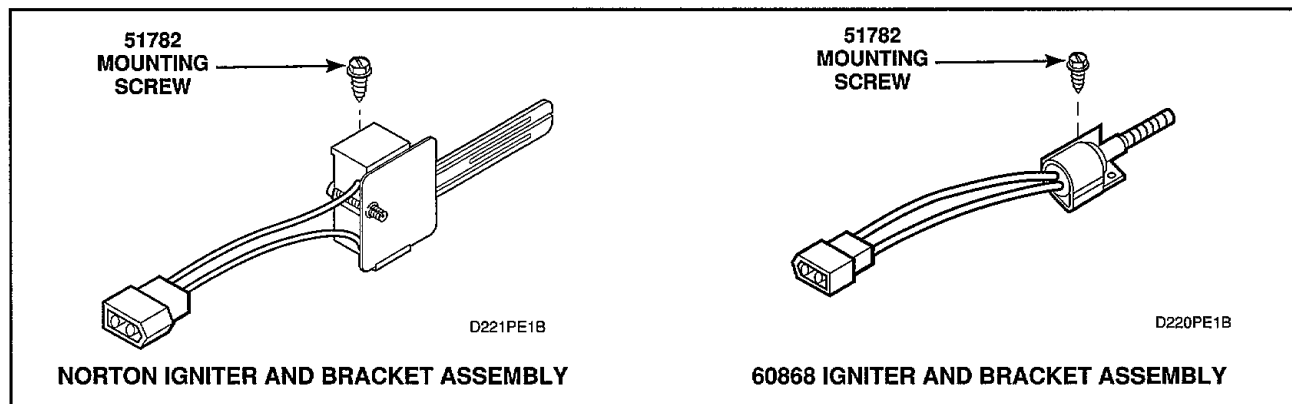

Figure 55
- Norton Igniter** — meter should read between 45-200 OHMS, *Figure 55*.
- 60868 Igniter** — meter should read between 75-800 OHMS, *Figure 55*.